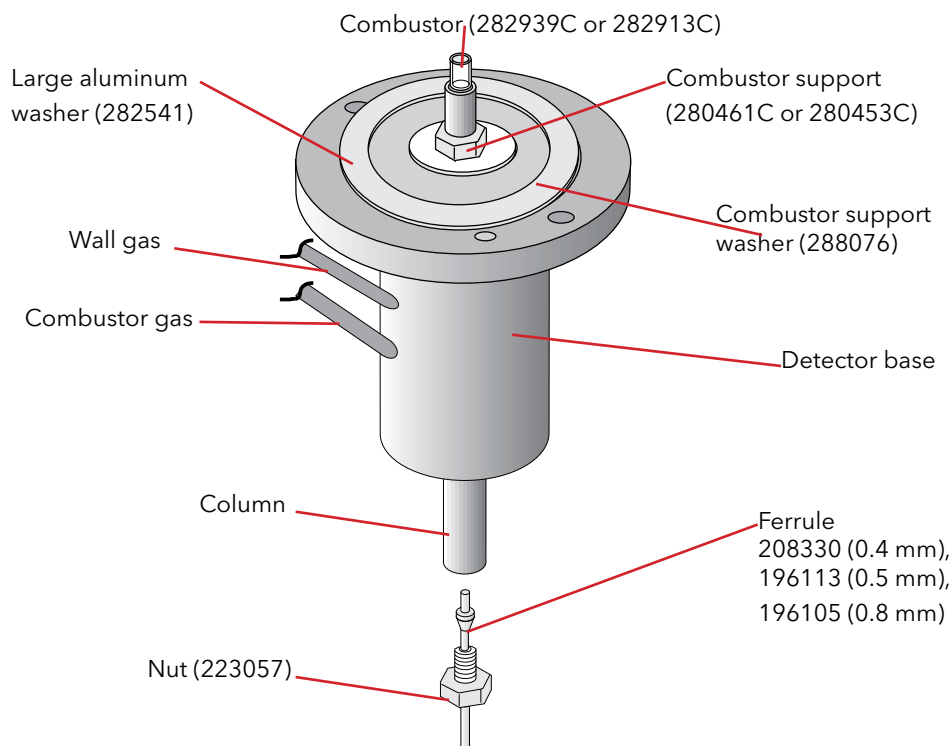

Figure 3.37. Combustor assembly
1. Slide the GC column nut (PN 223057) onto the end of the capillary column. Slide a 1/16" ferrule that matches the outer diameter of the column onto the end of the column with the tapered end facing into the GC column nut (Figure 3.37).